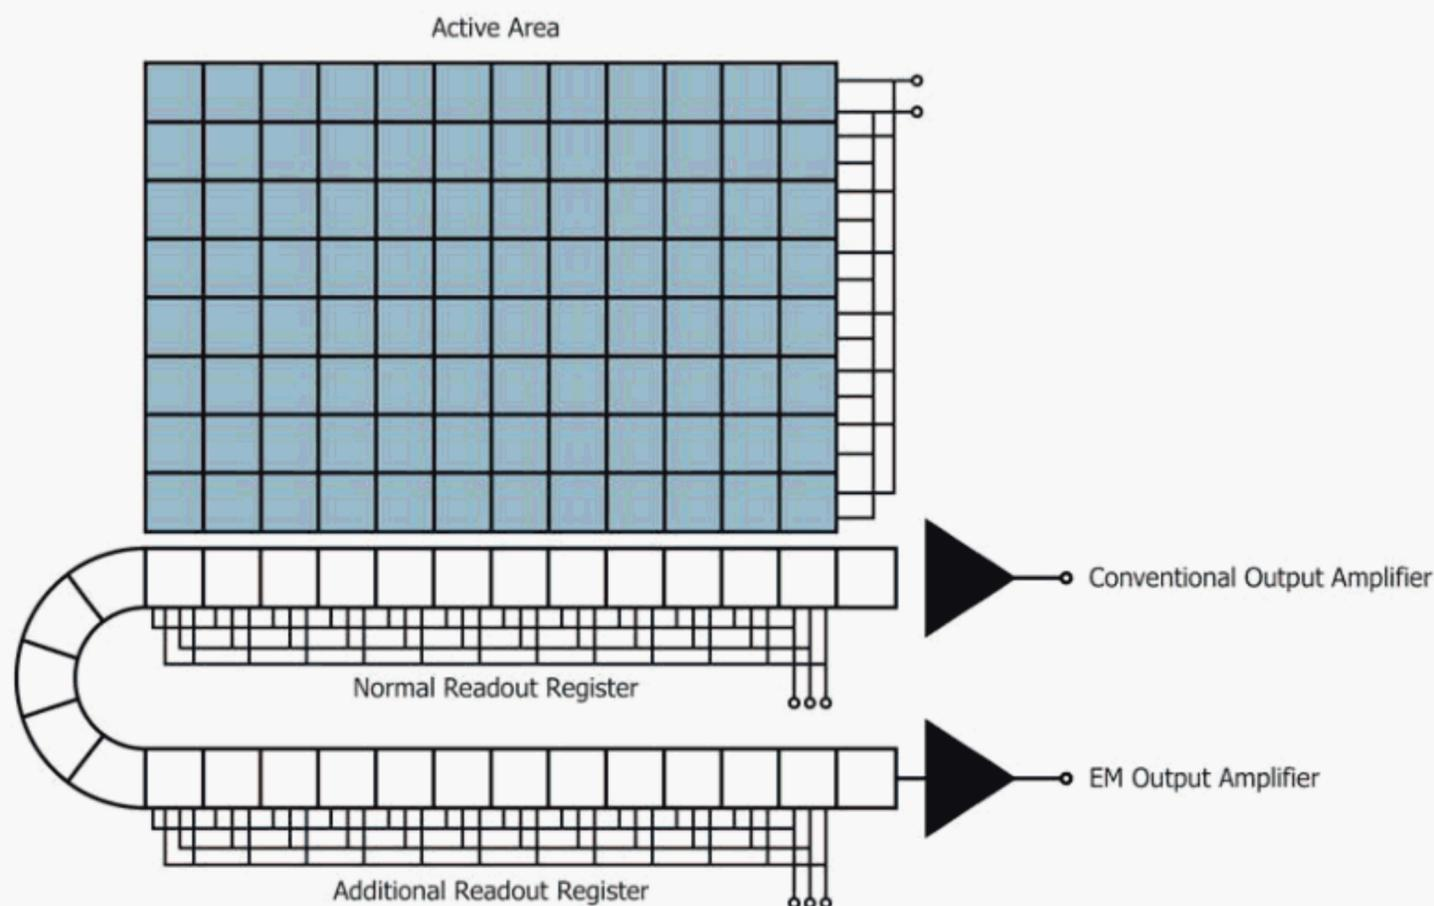

FIG. 6 Typical Sketch of Full-Frame EMCCD Sensor
**electron-multiplying CCD (EMCCD), *n***—type of CCD that has a two-way readout register, that is, the shift register and the gain register, each with its own output amplifier. When the charge is read out through the shift register, the detector works like a standard CCD detector, and when the charge is read out through the gain register, it undergoes charge amplification as a result of a different electrode structure embedded underneath the pixels of this register (see Fig. 6).